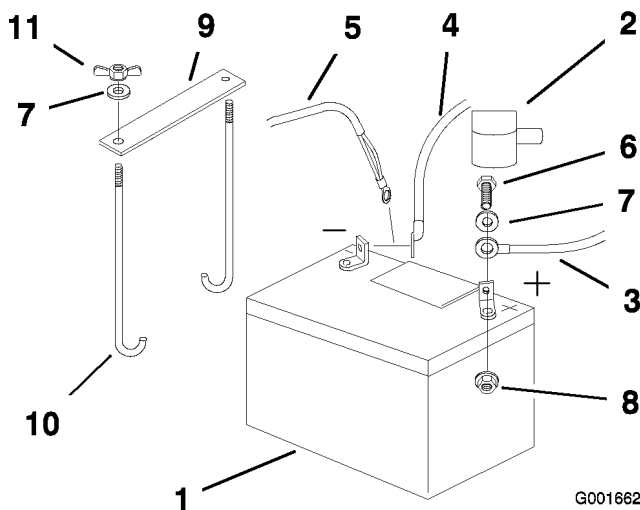

Figure 39
4. First disconnect the negative battery cable and ground wire from the negative (-) battery terminal (Figure 39).
5. Slide the red terminal boot off the positive (red) battery terminal. Then remove the positive (red) battery cable (Figure 39).
6. Remove both wing nuts (1/4 inch) securing the battery clamp (Figure 39).
1. Position battery in the tray with the terminal posts toward the engine (Figure 39).
4. Secure the cables with 2 bolts (1/4 x 3/4 inch), 2 washers (1/4 inch), and 2 locknuts (1/4 inch) (Figure 39).
6. Secure battery with J-bolts, hold down clamp and 2 washers (1/4 inch), and 2 wing nuts (1/4 inch) (Figure 39).